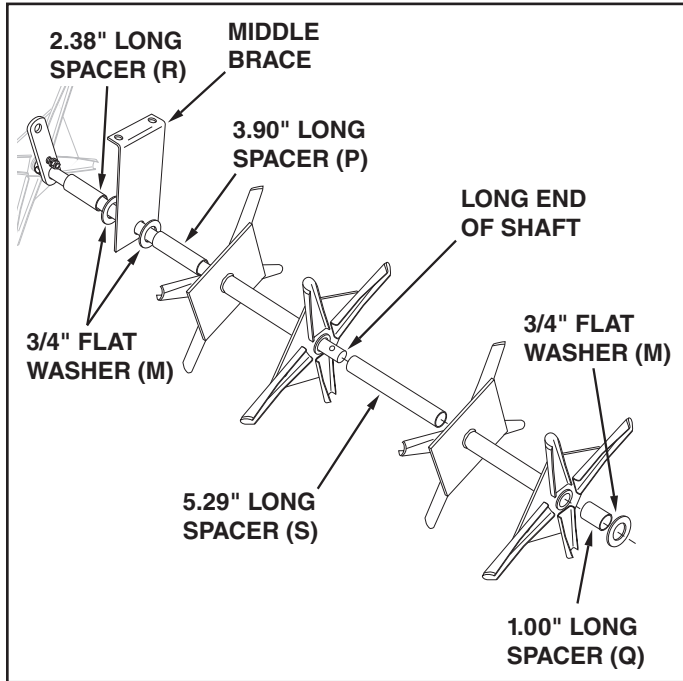

FIGURE 4
5. Assemble a 2.38" long spacer (R), a 3/4" flat washer (M), the middle brace, a 3/4" flat washer (M) and a 3.90" (P) long spacer onto the **long end** of the shaft. The bent lip of the middle brace must face the short end of the shaft. Next assemble a spool assembly, a 5.29" long spacer (S), another spool assembly, a 1.00" long spacer (Q) and a 3/4" flat washer (M) onto the shaft. See figure 4.